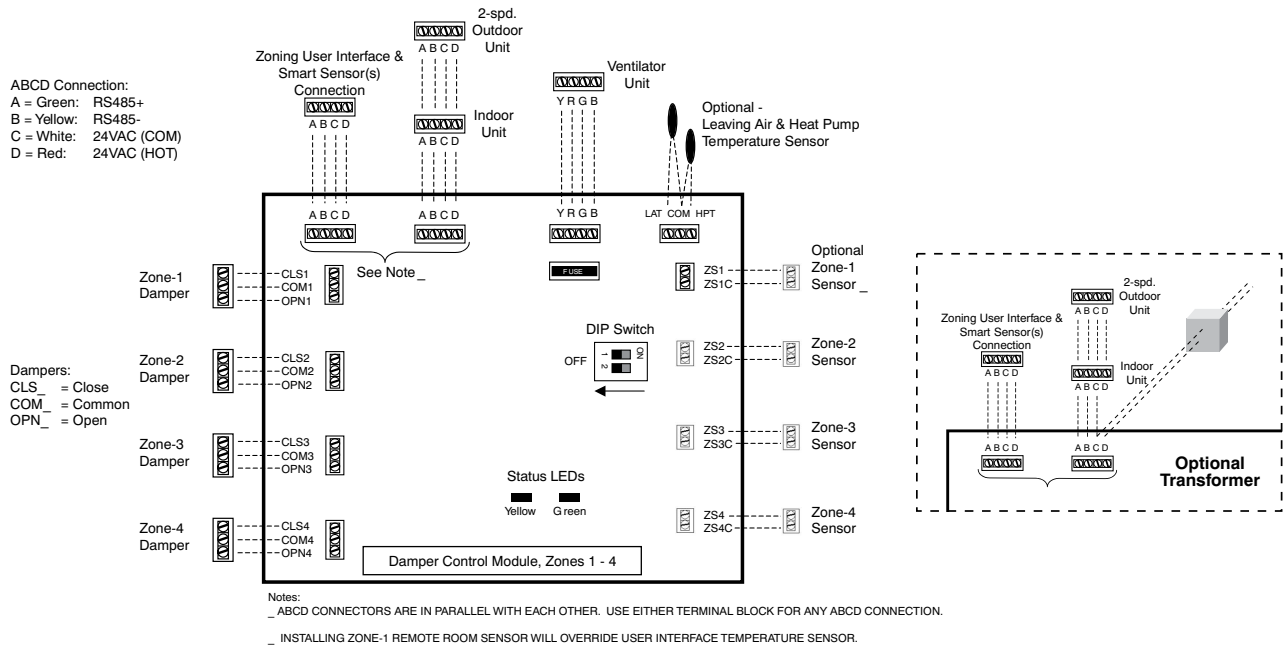

**Fig. 8 – Insulated Rectangular Fibrous Glass Ductwork**
4. If dampers are applied in an unconditioned space, insulate them using 1- 1/2 inch to 2 inch insulation (See Fig. 8).